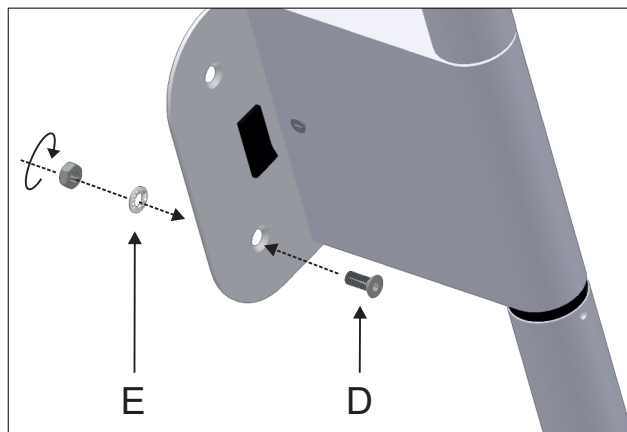

Figure 3
Attention: put the washer (E) on the screw and tighten the nut. Figure 3